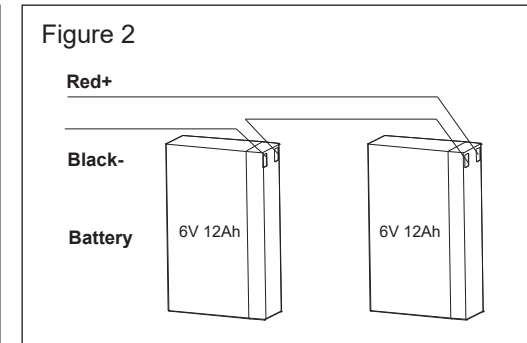

Figure 2
5. Batteries on larger units may be shipped separately to avoid damage in shipping. Install batteries into the cabinet and complete the appropriate battery connections (Fig.2)